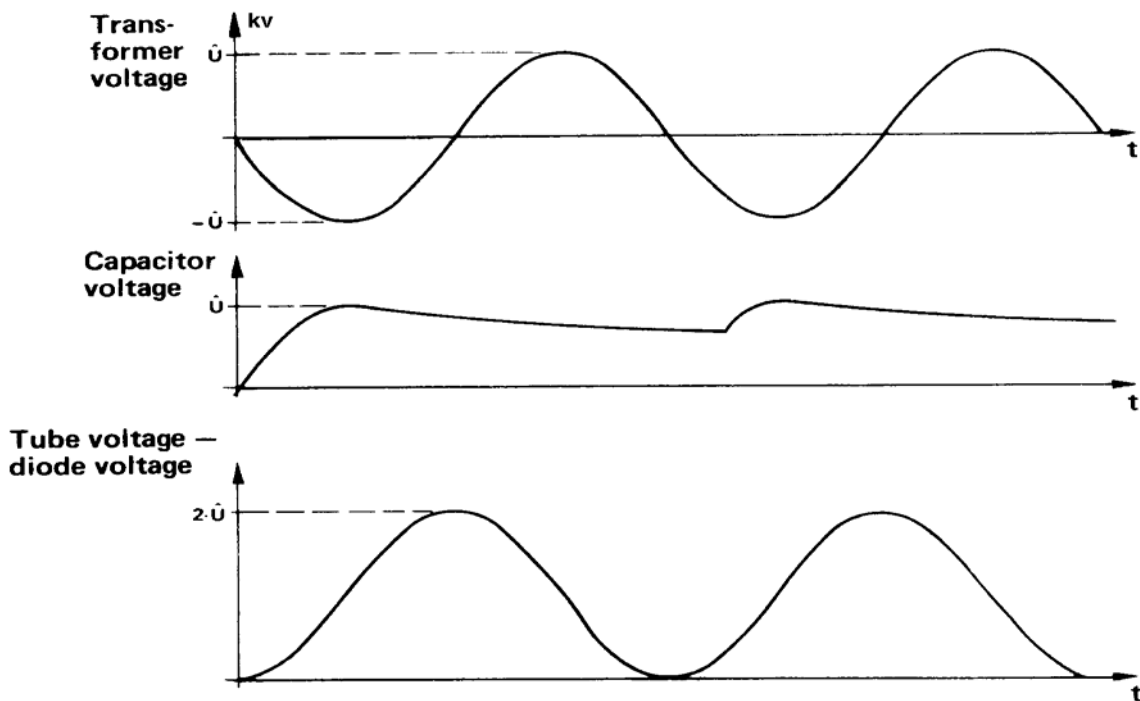

Figure 3-9. Transformer peak voltage doubling.
b. **Heliodent 70.** The secondary circuit of the Heliodent 70 consists of a voltage-doubling circuit (C1, V10, H1). The negative half wave of the transformer voltage charges the capacitor C1. The positive half wave of the transformer voltage is added to the capacitor voltage, so that twice the transformer peak voltage is required on the tube. Refer to figure 3-9.